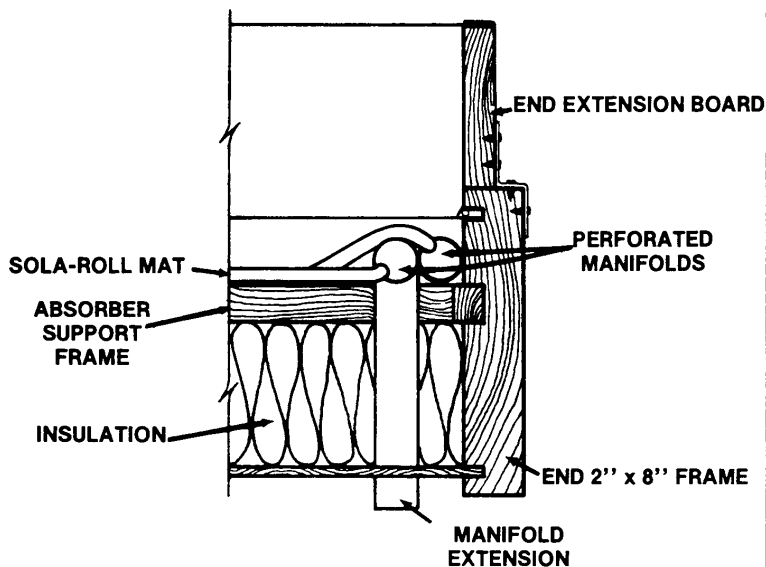

FIGURE 9 — MANIFOLD PLACEMENT
11. Assemble the fittings to the headers as shown in the drawings to place the perforated holes as shown in Figure 9.